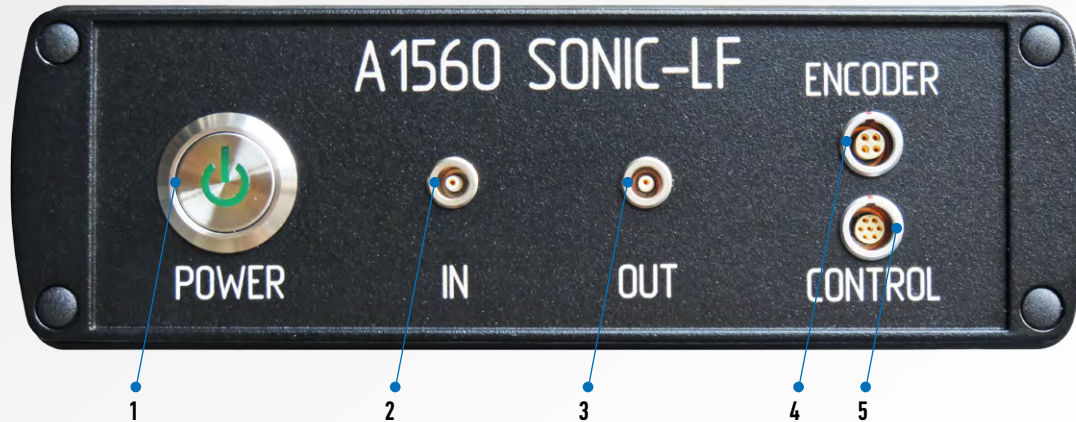

FIGURE 1. A1560 FRONT PANEL
2. Power the A1560 OFF with the **POWER** button on its front panel (Fig.1 Pos.1). Wait for the built-in indicator to turn off.